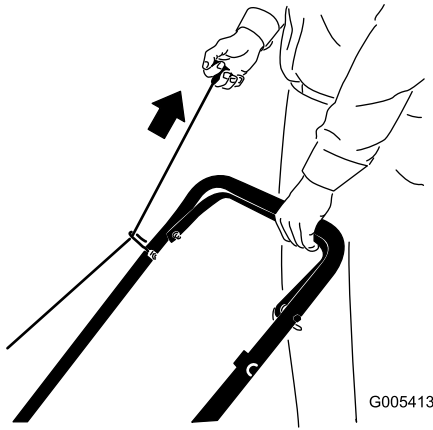
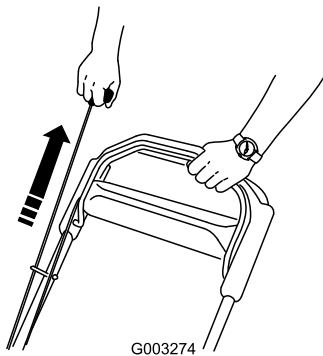

Figure 17
Figure 18
4. Pull the recoil starter (Figure 17) or (Figure 18).